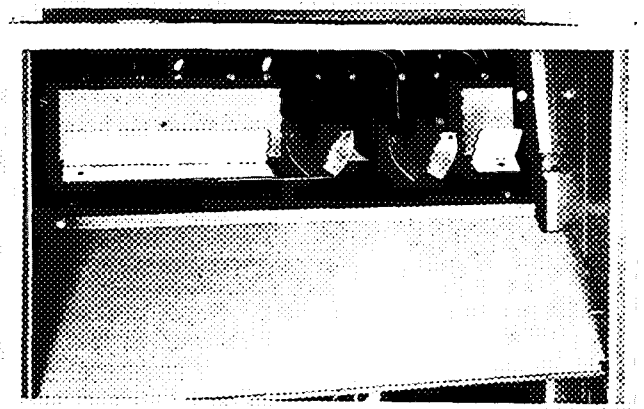

Fig. 10 — Removing Baffles
4. Remove flue chokes (2 across flue outlets) and baffles from flue outlets of heat exchanger. See Fig. 10.